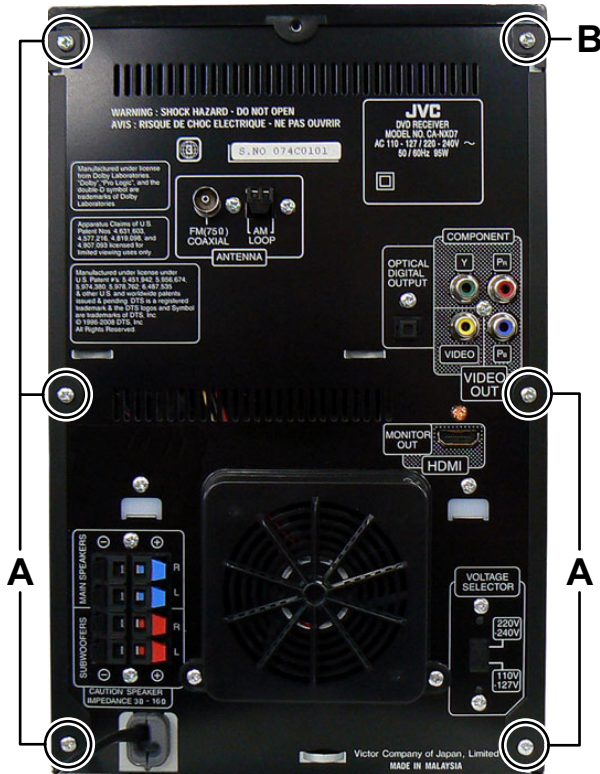

Fig.1
3.1.1 Removing the Top cover (See Fig.1, 2 and 3)
- (1) Remove the five screws **A** and one screw **B** attaching the Side panel. (See Fig.1)